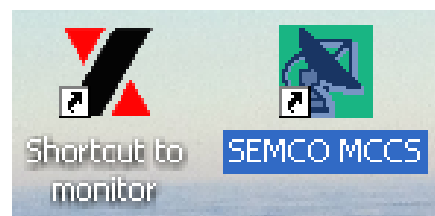

Figure 3-3
Step 2 – Install the SEMCO MCCS Network Software on the remote PC. The following two icons (Figure 3-3) will appear on the remote PC desktop: